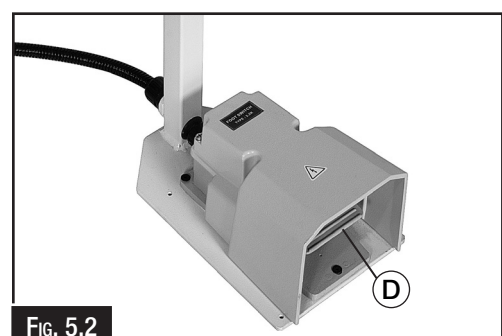

FIG. 5.2
- D. Foot Pedal:** When pressed operates the hammer action of the machine. (D in Fig. 5.2)